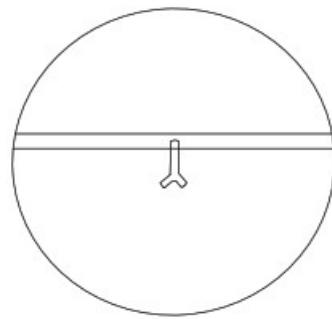
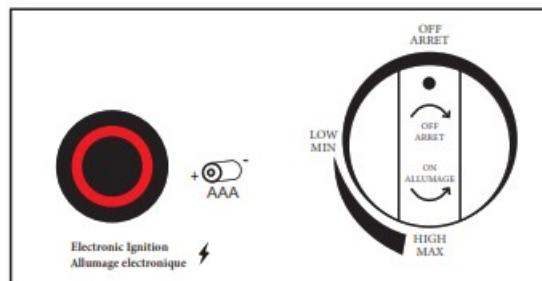

Figure 10
Figure 11
STEP 7: Place the gas cylinder into the cylinder holder (figure 9), secure the cylinder by tightening clockwise the bolt (figure 10) found on the cylinder holder, so the cylinder cannot move from side to side or fall down. The knob on the control panel is turned all the way to the "OFF" position (figure 11) when the fire pit is not in use.